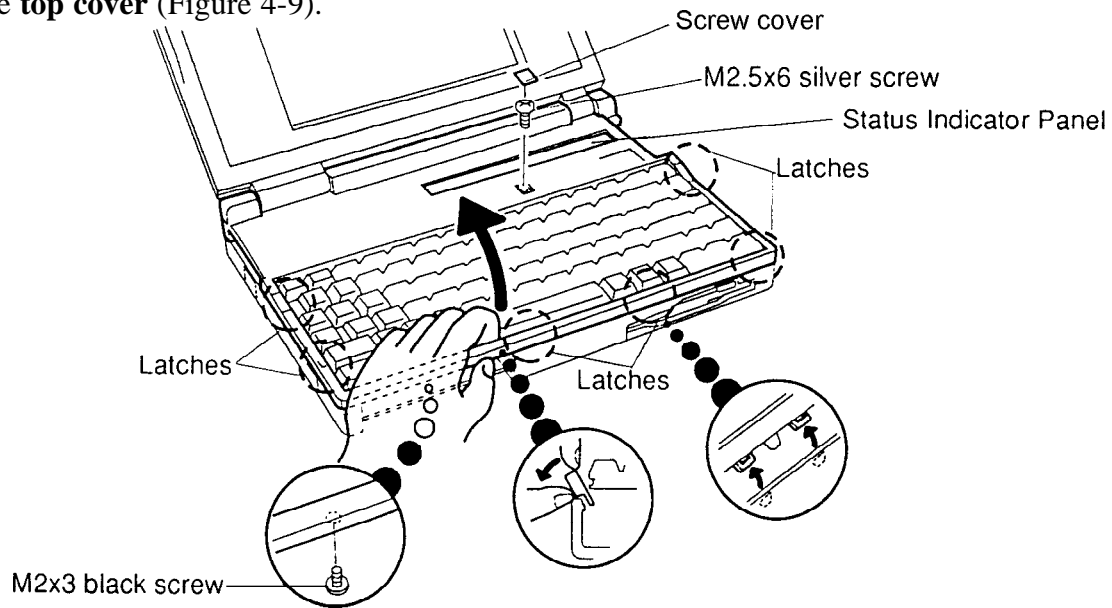

Figure 4-9 Unlatching the Top Cover
7. With the display closed, turn the computer over and remove the **one M2x3 black screw** at the front of the battery slot (Figure 4-9).
11. Unsnap the **latches** securing the **top cover** to the base assembly. Start by pressing on the front of the **top cover** just in front of the space bar and rotate the keyboard's front edge toward you to release the **front latches** (Figure 4-9).
12. Continue around the rim of the **top cover** until all latches are released, then carefully lift up the **top cover** (Figure 4-9).
2. Begin at the back and snap the **top cover** in place. Continue along the sides and snap the front latches last (Figure 4-9).
3. With the display closed, turn the computer over and secure the **one M2x3 black screw** at the front of the battery slot (Figure 4-9).
5. Secure the **one M2.5x6 silver screw** and replace the **screw cover** below the function key identifier strip (Figure 4-9).
2. Seat the **keyboard** in the computer. Note that a fold is built into the **keyboard cable**. Do not try to bend the cable at any other point when you install the keyboard (Figure 4-9).